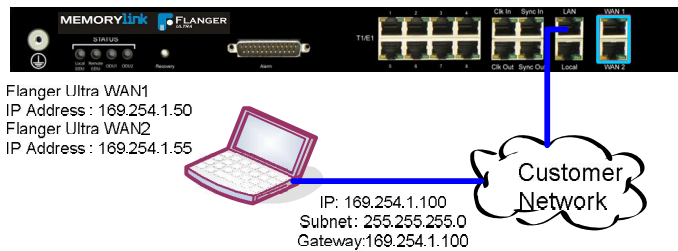

Figure 5: Accessing a Flanger Ultra remotely through the customer network
- Access the Flanger Ultra remotely through the customer’s infrastructure (Figure 5) to either WAN IP address. The default IP addresses are shown in Table 3.